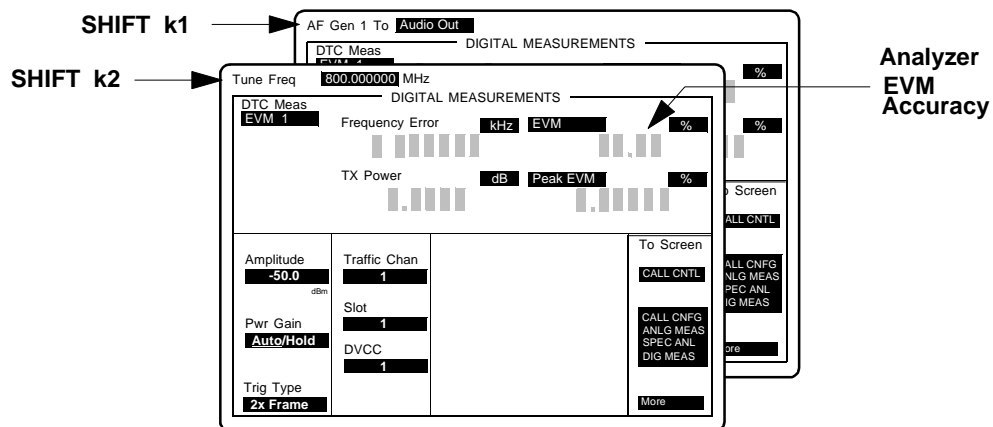

Figure 54 DIGITAL MEASUREMENTS Screen
- a. Select **DIG MEAS** from the **To Screen** menu (see figure 53 on page 123), the DIGITAL MEASUREMENTS screen appears (see figure 54).